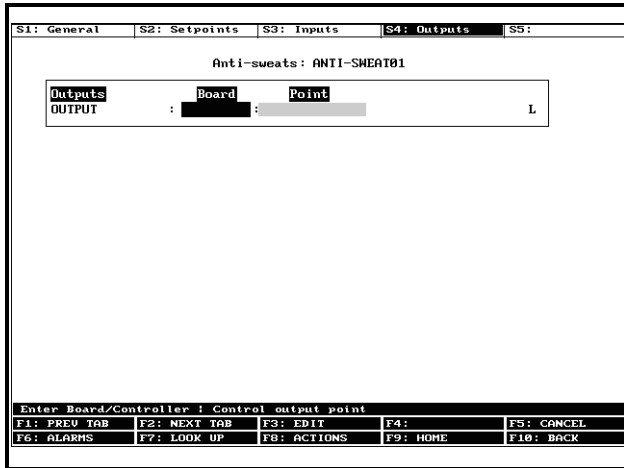

Figure 3-6 - Outputs Screen
9. Press **F2** to advance to the Outputs screen as seen in *Figure 3-6*.